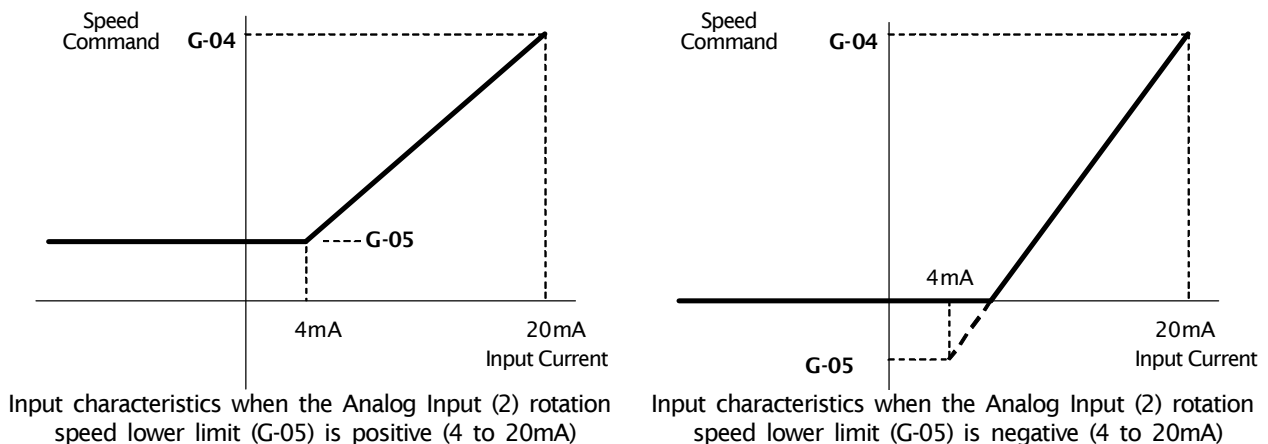

Figure 5.4 Speed command characteristics with current input of 4 to 20mA
The rotation speed command value is set as the Analog Input (2) rotation speed lower limit (G-05) when the input is 4mA. When the input is 20mA, it is set as the Analog Input (2) rotation speed upper limit (G-04). However, this will be set to “0” if the Analog Input (2) rotation speed lower limit (G-05) has a negative value. (Figure 5.4) If the minimum rotation speed (A-01) is other than “0”, the rotation speed command absolute value is controlled to prevent falling below the minimum speed. As a speed command, this only allows forward operation. For reverse operation, a reverse operation command should be used.